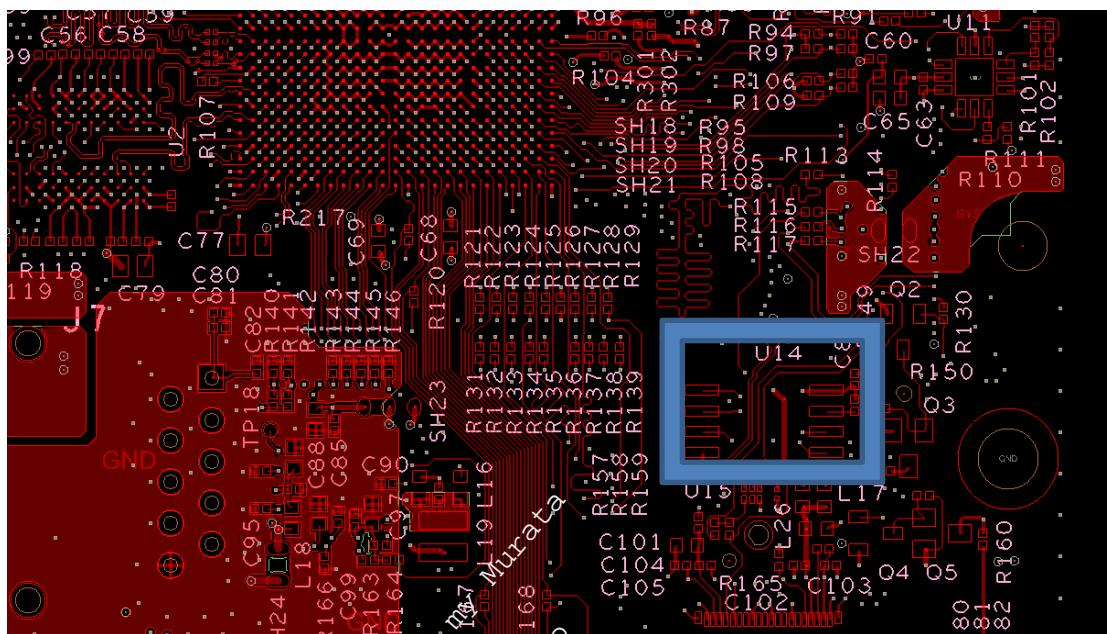

Figure 35: Remove U14 (SPI NOR Flash)
- 1) Remove U14 (SPI NOR Flash) pictured in the layout Figure 35. U14 is framed by blue box. It is to the bottom right of i.MX6 MPU.